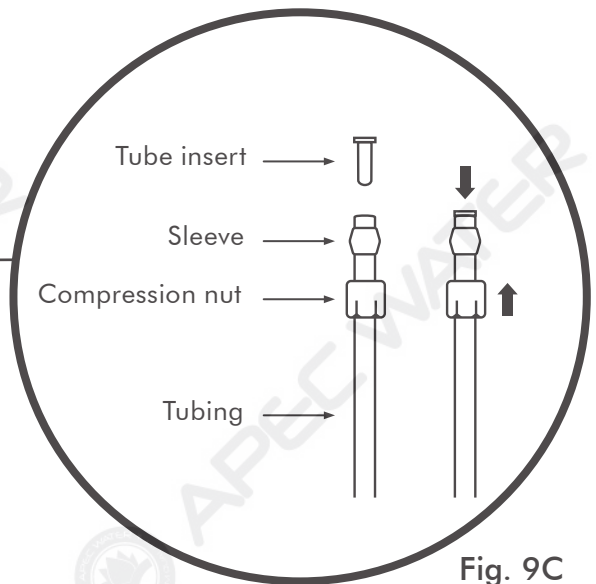

Fig. 9C
2. Make sure the tube insert is **pushed all the way** into the tubing **Fig. 9C (Page 12)**.